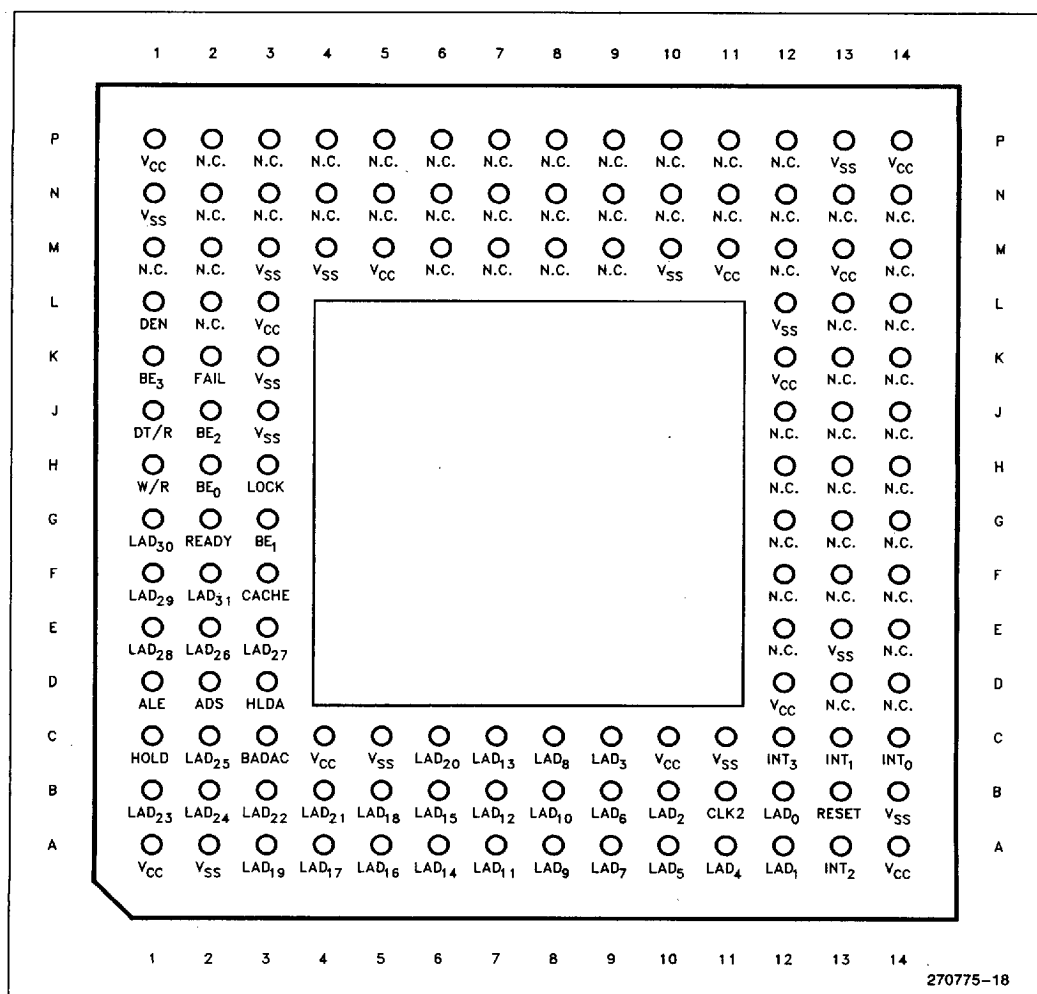
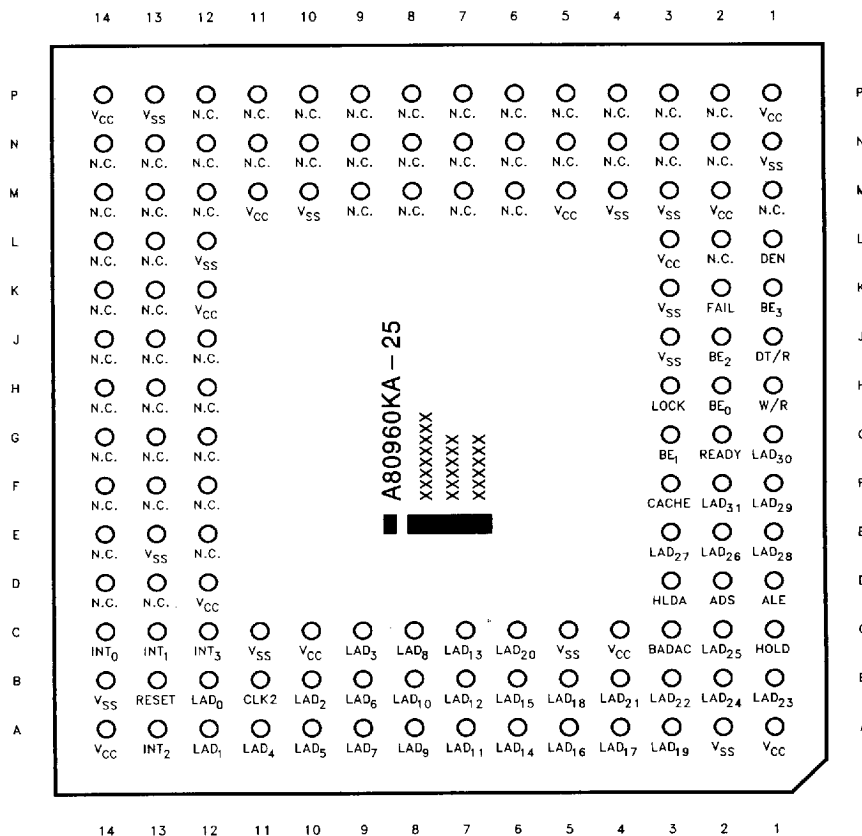
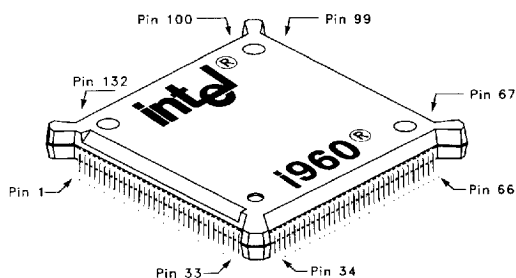
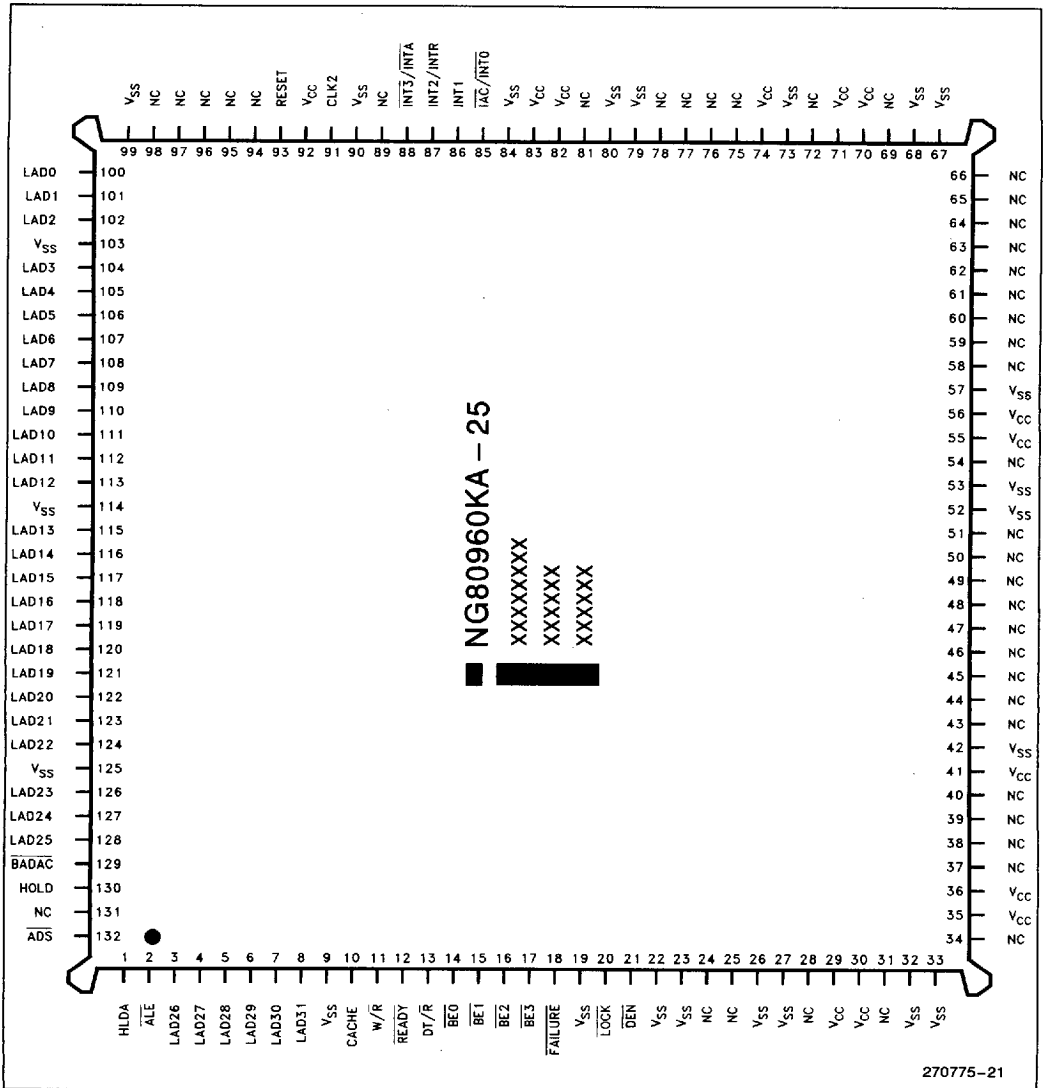

Figure 18. 80960KA PGA Pinout—View from Bottom (Pins Facing Up)
Figure 19. 80960KA PGA Pinout—View from Top (Pins Facing Down)
Figure 20. 80960KA 132-Lead Plastic Quad Flat-Pack (PQFP) Package
Figure 21. PQFP Pinout—View from Top
- 132-lead plastic quad flat pack (PQFP). This package uses fine-pitch gull wing leads arranged in a single row along the package perimeter with 0.025 inch (0.64 mm) spacing (see Figure 20).
The PGA and PQFP have different pin assignments. Figure 18 shows the view from the PGA bottom (pins facing up) and Figure 19 shows a view from the PGA top (pins facing down). Figure 20 shows the PQFP package; Figure 21 shows the PQFP pinout with signal names. Notice that the pins are numbered in order from 1 to 132 around the package perimeter. Table 9 and Table 10 list the function of each PGA pin; Table 11 and Table 12 list the function of each PQFP pin.